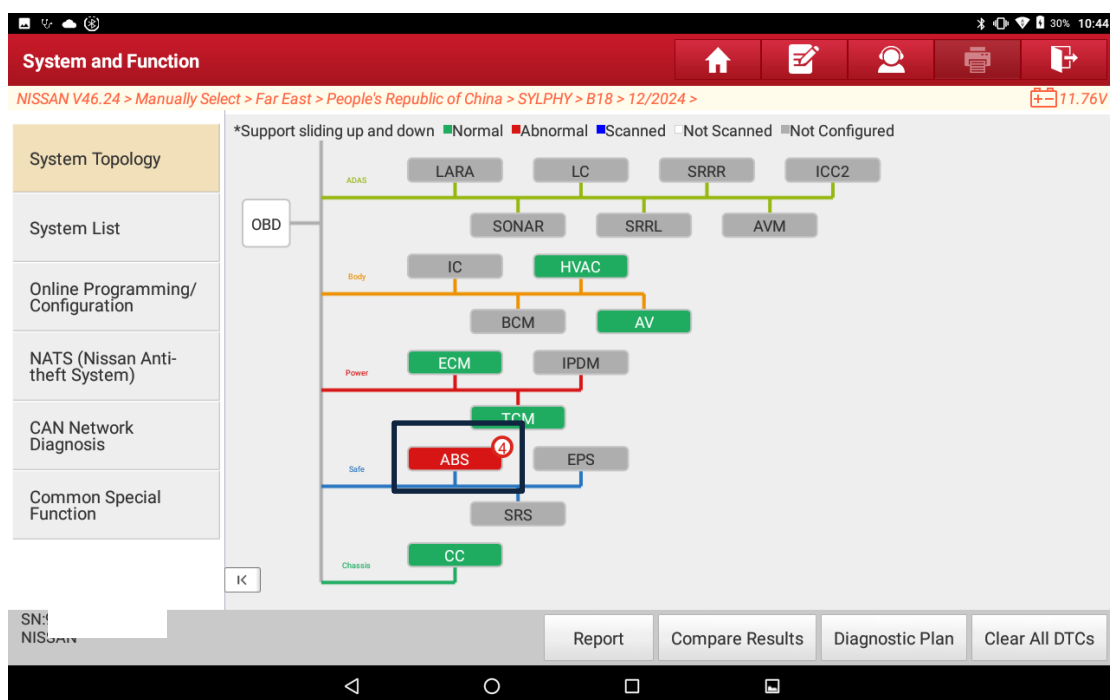
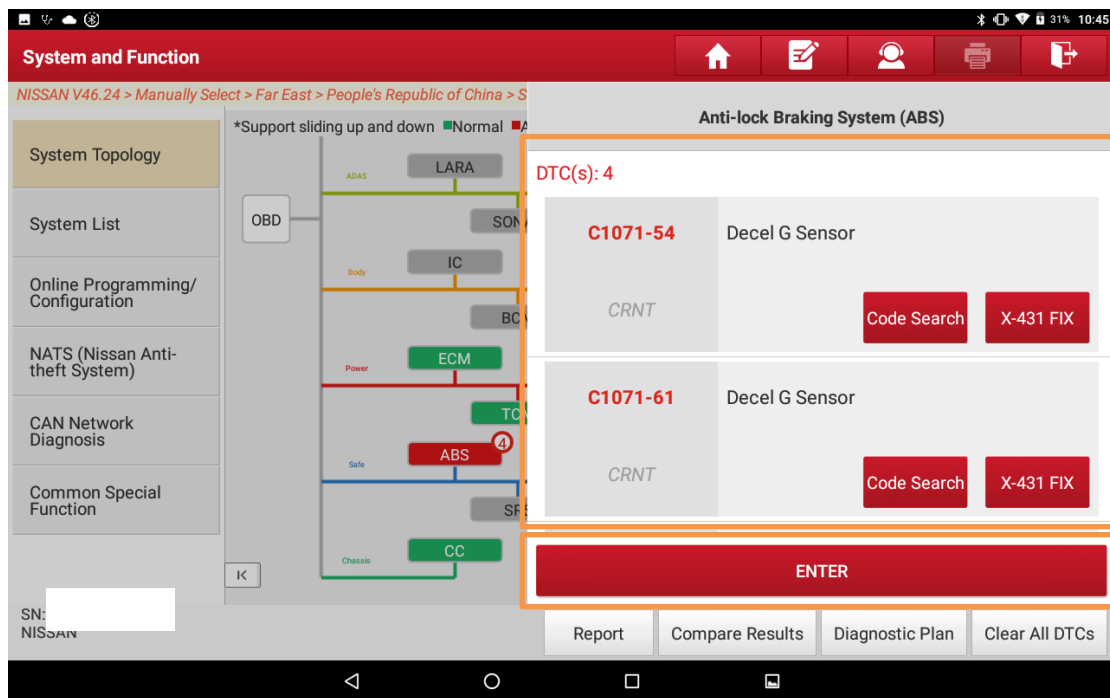
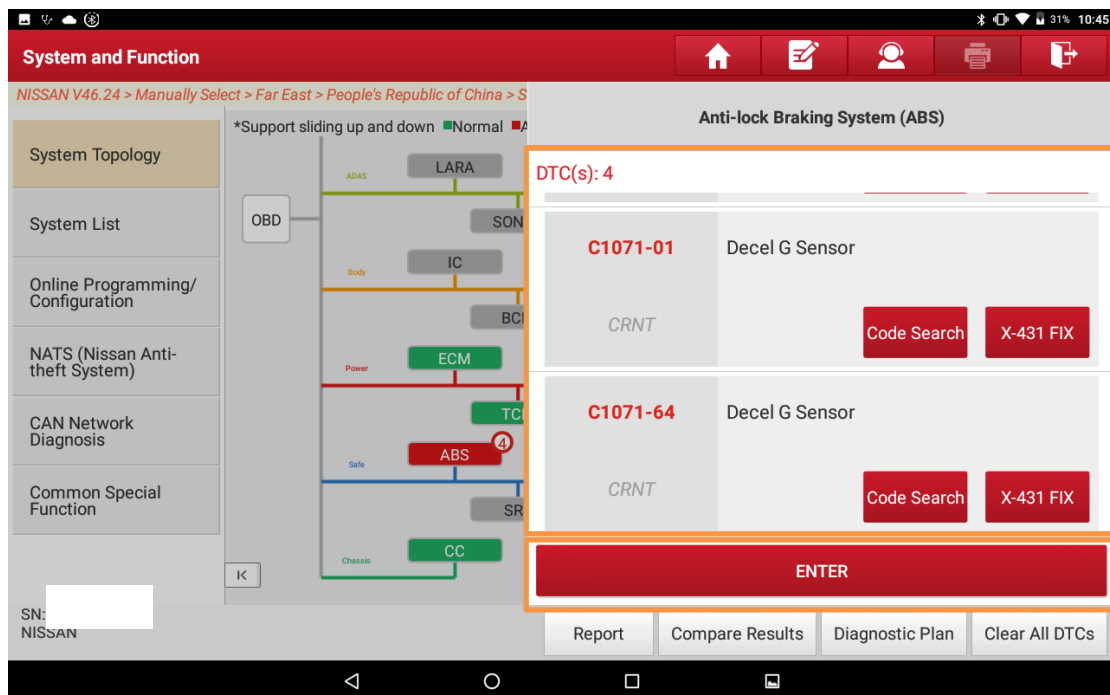

Figure 7
Figure 8
Figure 9
4. After the detection is completed, click [ABS] on the system topology (Figure 7) to display ABS DTC information (Figure 8 and Figure 9). If fault information similar to that in Figure 8 and Figure 9 is read out, and other peripheral issues have been ruled out, it indicates that the deceleration G sensor calibration needs to be executed.